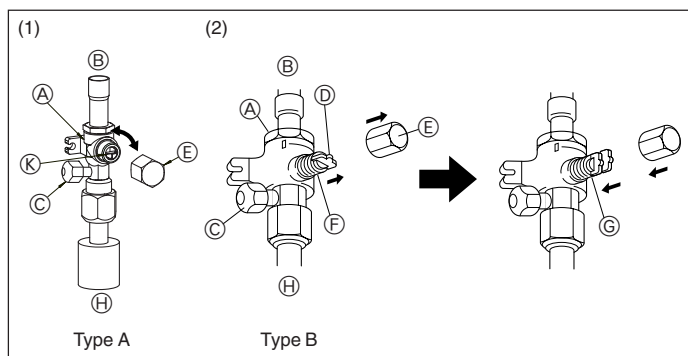

Fig. 5-7
(1) Type A (Fig. 5-7)
(2) Type B (Fig. 5-7)